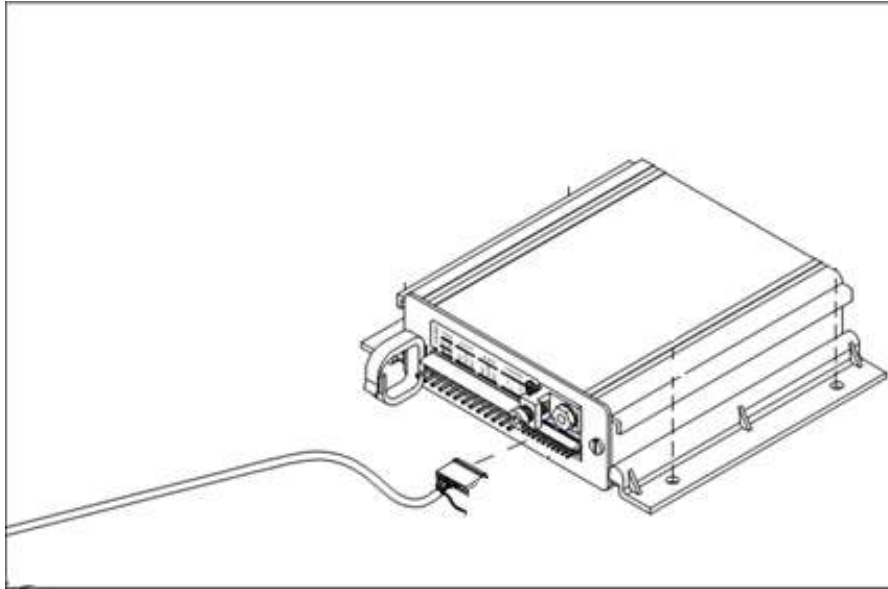

Figure 4: Inserting the Current Transducer Cable
8. Route the current transducer cable inside the FCCP Box and terminate the pre-wired connector at the back panel of the FCCP, to the "SENSOR A" position. See Figure 4.